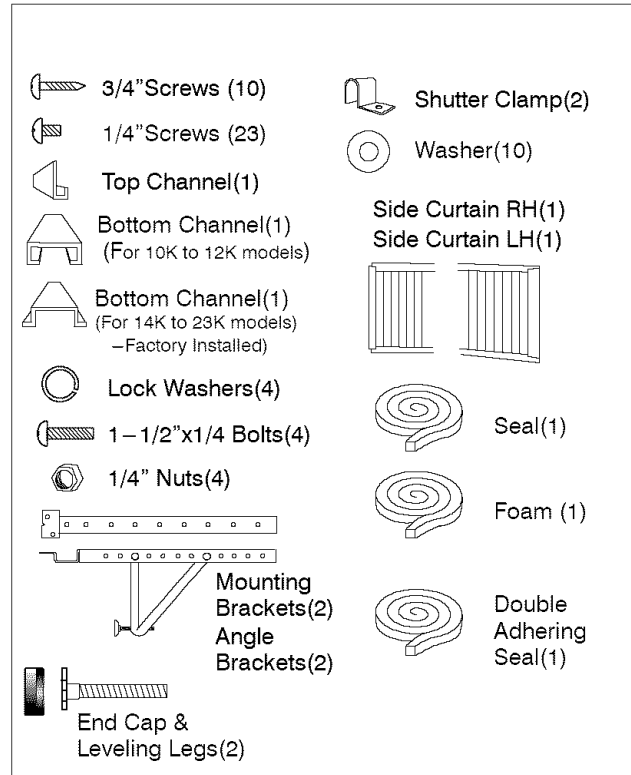

Fig. 4 – Installation Hardware
**NOTE:** Save the shipping carton and packing materials for future storage or transport of the unit. Please check the contents of the hardware kit against the corresponding model check list, prior to installation of the unit. See lists below in Fig. 4.